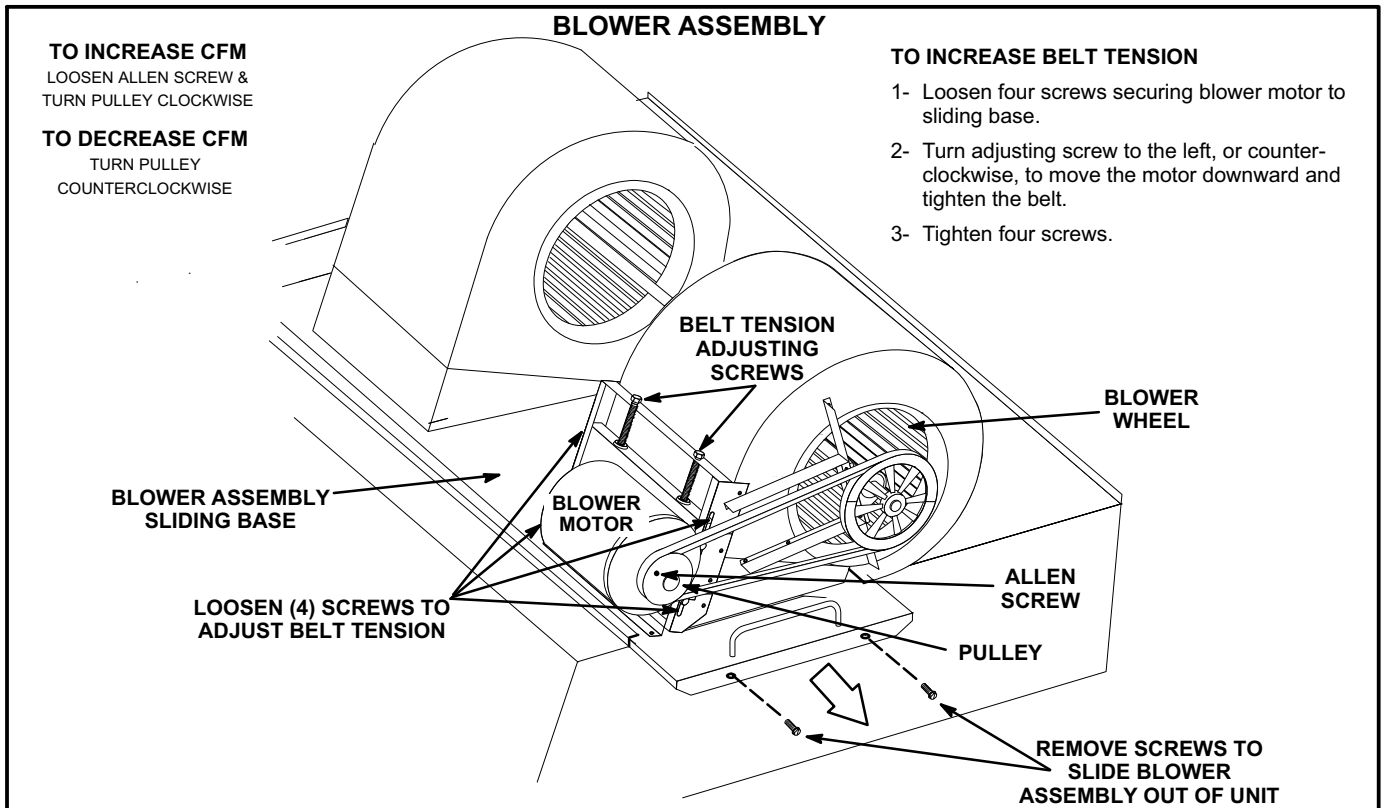

FIGURE 7
The blower assembly is secured to a sliding base which allows the entire assembly to be pulled out of the unit. See figure 7.
- 4- The blower RPM can be adjusted at the motor pulley. Loosen Allen screw and turn adjustable pulley clockwise to increase CFM. Turn counterclockwise to decrease CFM. See figure 7. Tighten Allen screw after adjustment. Do not exceed minimum and maximum number of pulley turns as shown in table 2.